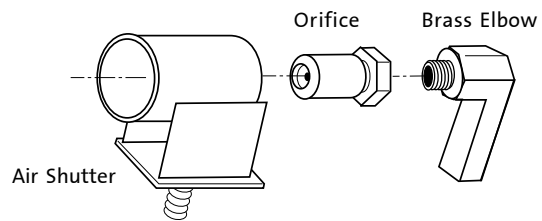

Figure 3. Air Shutter and Burner Orifice Removal.
6. **Change the burner orifice:** Push the Air Shutter out of the way. Use a 1/2" open end wrench or deep well socket to remove the old burner orifice and replace it with the appropriate new orifice: Fig. 3.
9. **Adjust the Air Shutter** on the burner tube: Slide the shutter stem left to open and right to close. See Fig. 3.